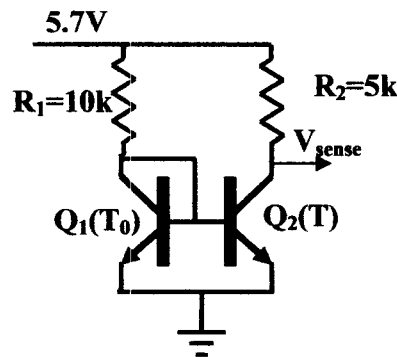

Figure 4.1: The thermometer of question 3.
4. A thermometer has been proposed, consisting of 2 identical transistors Q_1 and Q_2 (fig. 4.1). Q_2 is the unknown temperature sensor at temperatures near 300 K while Q_1 is used as a reference and is kept at the ambient temperature, 300 K. Also, as biased, $V_{BE}(Q_1) = 0.7$ V.